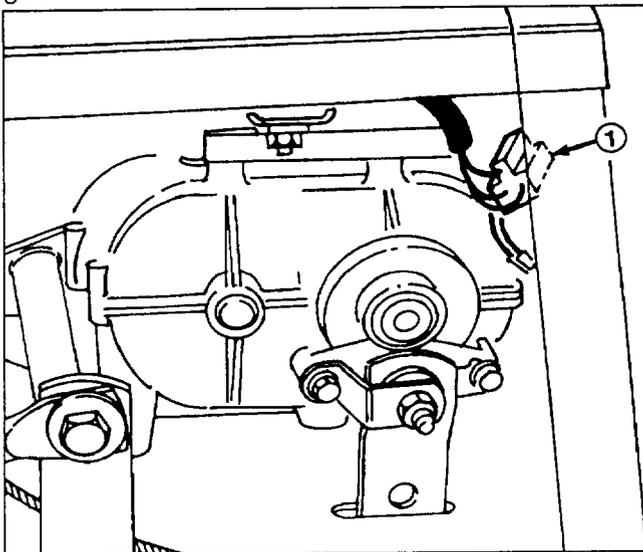

Figure 33
4. Push module connectors together to assure connection (Fig. 33).